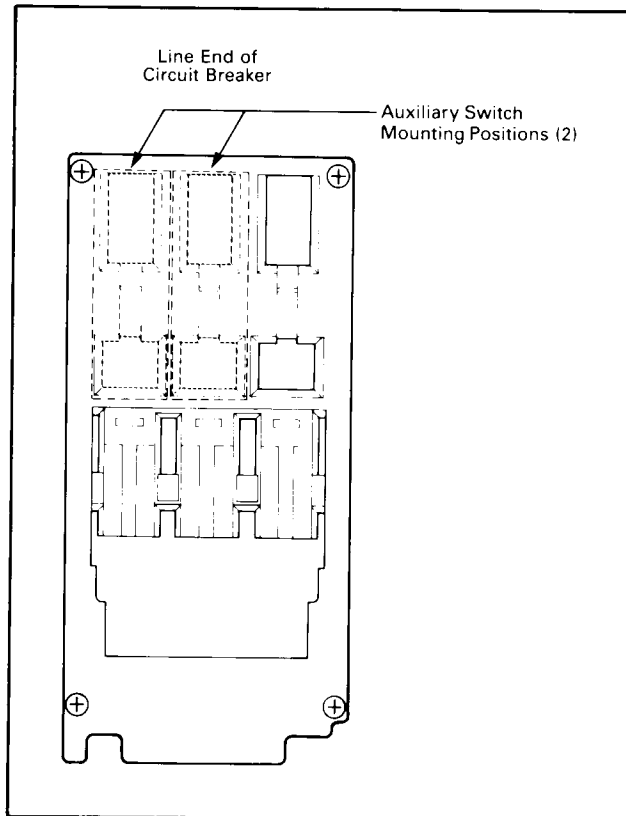

Fig. 2-2. Accessory Location Diagram
- a. Select position of auxiliary switch on accessory mounting deck (see Fig. 2-2).